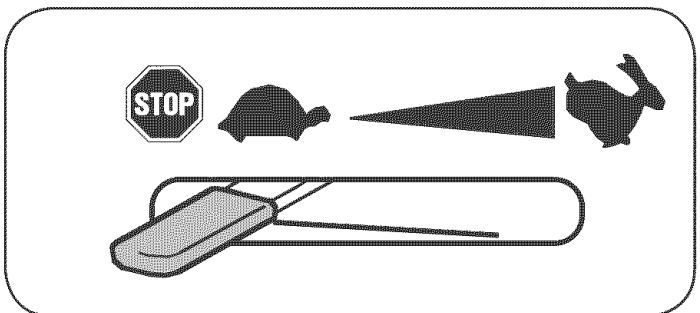

Figure 6
1. Move throttle control lever to STOP position. See Figure 6.